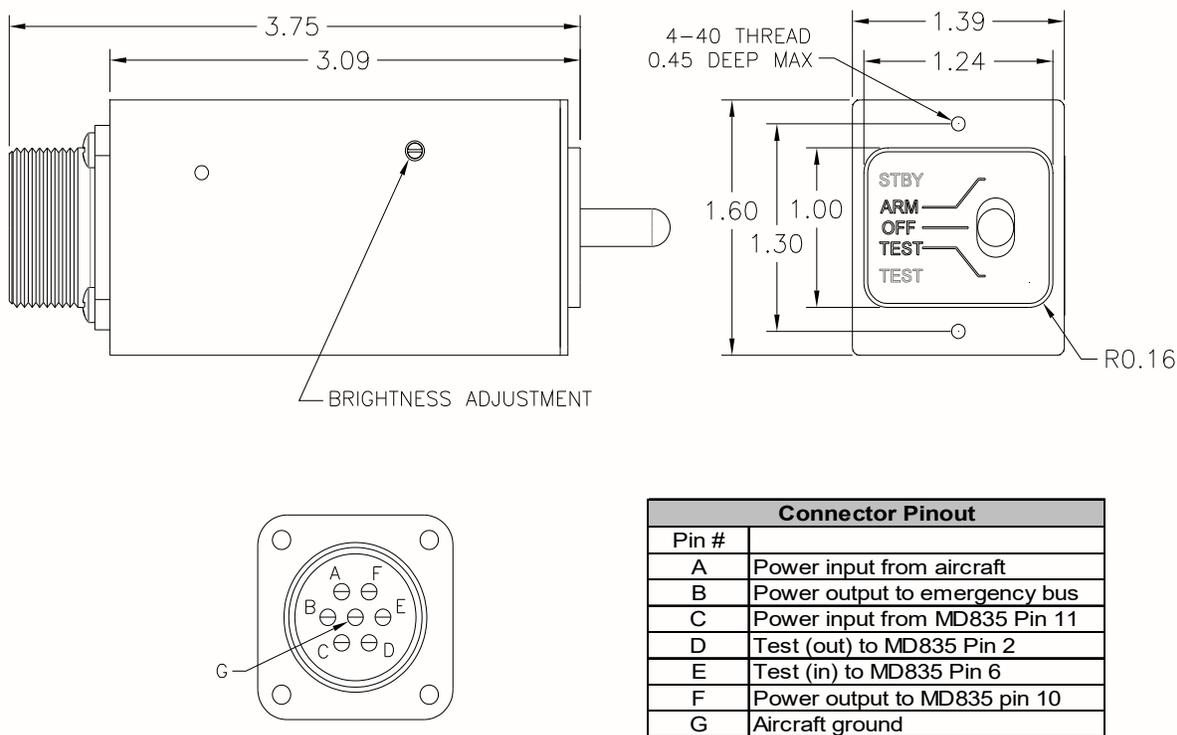

Figure 2.3
- i. Cut the instrument panel using the bezel dimensions and hole locations shown in Figure 2.3.